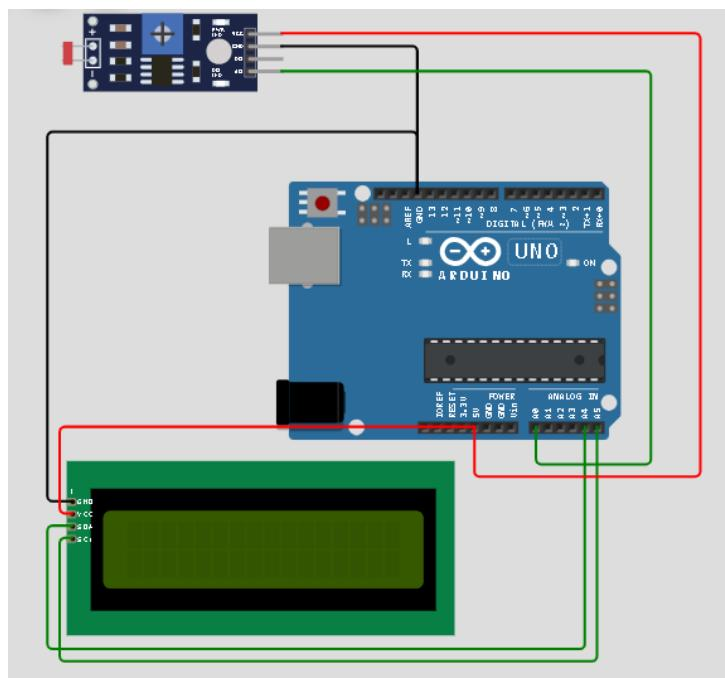

Figure 8.1
- a. Design the circuit diagram given in figure 8.1 in Wokwi. Use the below items to design your circuit diagram.
- a) Connect the components correctly and design the circuit as shown in figure 8.1.